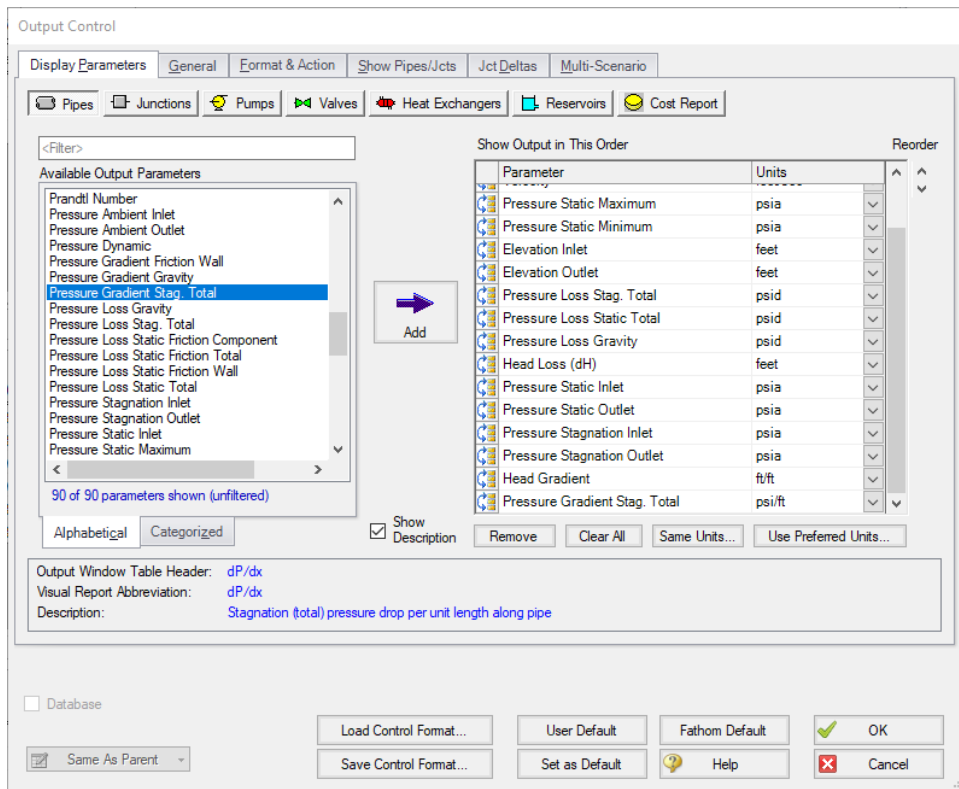

Figure 6: The Output Control window Pipes report
2. In the Pipes section choose **Head Gradient** and add it to shown output. Then change its units to ft/ft. Head gradient is the same thing as *Jm*. See Figure 6.